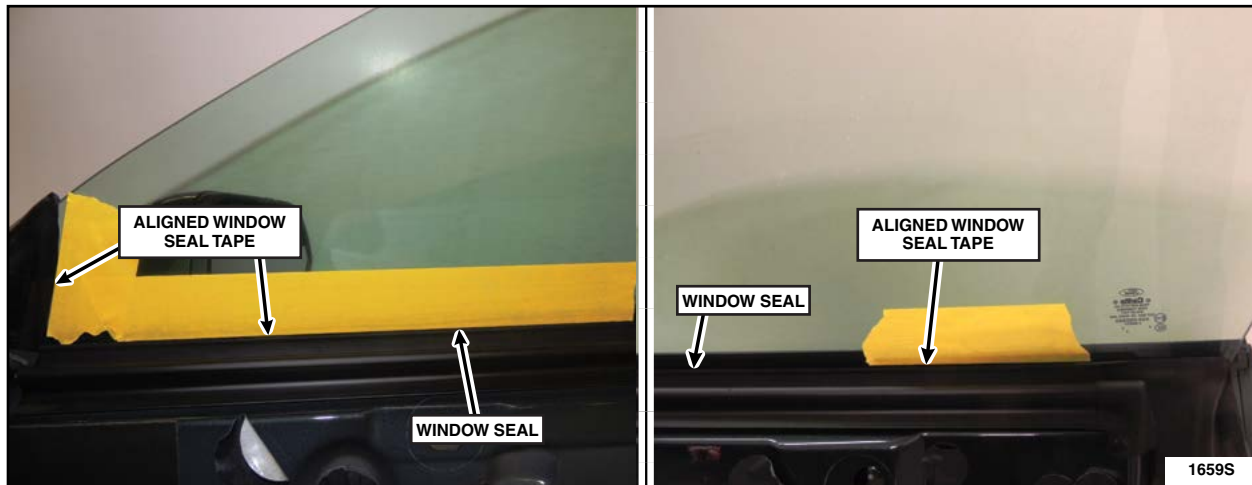

FIGURE 17
2. Align and apply masking tape or equivalent to window glass fore and aft along window seals as reference points for alignment during re-installation of the window glass. See Figure 17.
NOTE: When reinstalling the window glass, align the tape with the window seal to ensure proper fit before tightening the fasteners. Door window glass adjustment is not necessary when following this procedure. See Figure 17.